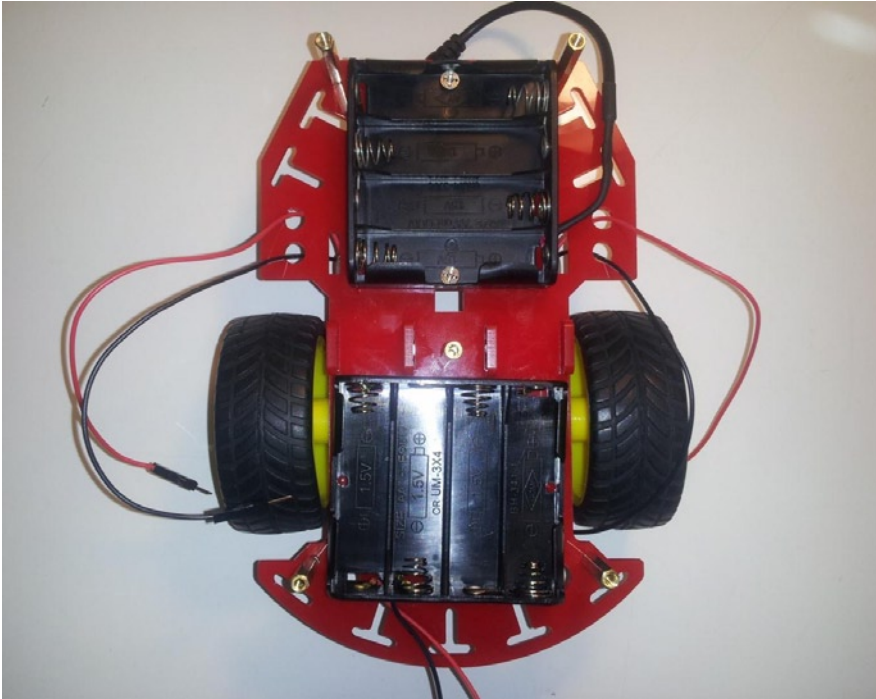

Figure 31-6. Attach the 4-AA battery holder to the chassis
5. Attach the AA battery holder to the Velcro on the bottom plate of the chassis. Figure 31-6 illustrates this process. (There should now be two 4-AA battery holders. If you followed the instructions that came with the chassis, you added the first one as you built the chassis.)